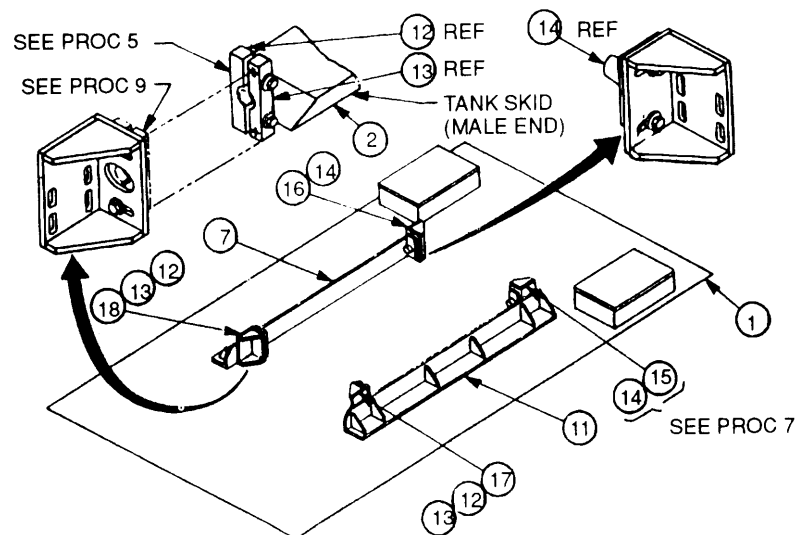
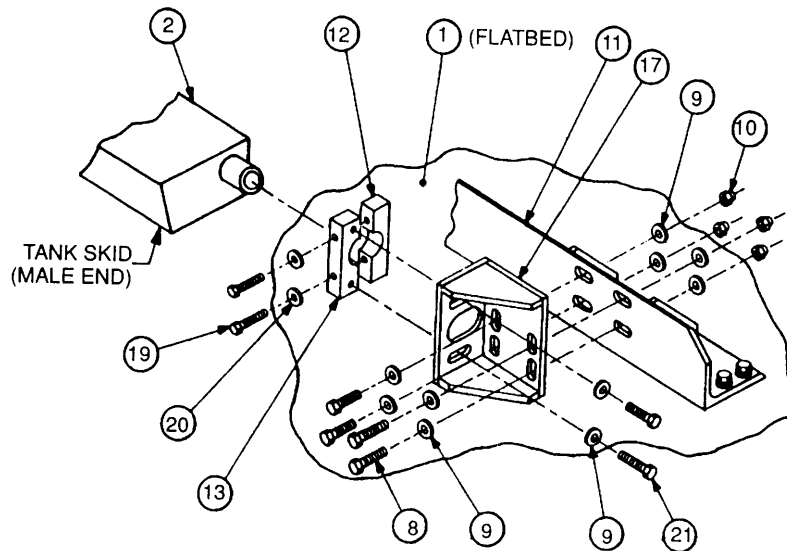
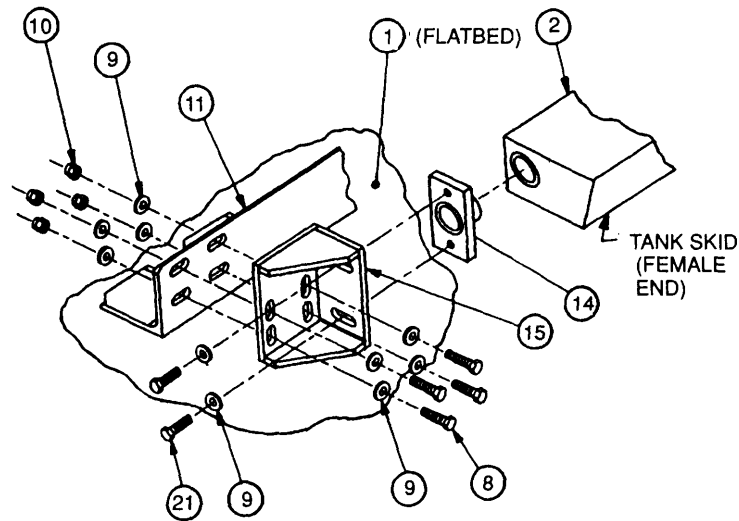

Figure 4-9. Preparation for Installation.
Figure 4-10. Angle/Bracket/Clamping Adapter Assembly
Figure 4-12. Angle/Bracket/Socket Adapter Assembly.
- (5) Orient and position inboard and outboard clamping adapters, (12) and (13), and attach to post protruding from one skid on tank (2), using two screws (19), and two washers (20). Install hardware only fingertight, enough to retain adapters during positioning of tank. Repeat procedure at post on the other skid. Note that positions will be reversed (inverted) to maintain the inboard position of adapter (13). See Figure 4-9 and Figure 4-10.
- (7) Loosely attach one socket adapter (14), with the curbside end angle bracket (15), using two screws (21), and two washers (9). Repeat procedure using the roadside equivalent, (16, Figure 4-9). See Figure 4-12
- (8) Starting at the secured mounting angle, fit the adapter, with the appropriate angle bracket assembled, into socket on that skid of the tank and loosely attach the angle bracket to the mounting angle using four screws (8), eight washers, (9), and four nuts (10). Repeat procedure at mounting angle farside. See Figure 4-12
- (9) At the other end of tank, again starting at the secured mounting angle, attach the appropriate clamping end bracket (17 or 18 Figure 4-9) to the assembled clamping adapters on post of tank skid (step 5, above) by installing two screws (21) and two washers (9) through bracket into tapped holes in the inboard adapter (13), fingertight only. See Figure 4-10 and Figure 4-12
- (10) Loosely attach clamping end bracket to mounting angle using four screws (8), eight washers (9), and four nuts (10). Repeat procedure in steps (9) and (10), for farside. See Figure 4-12